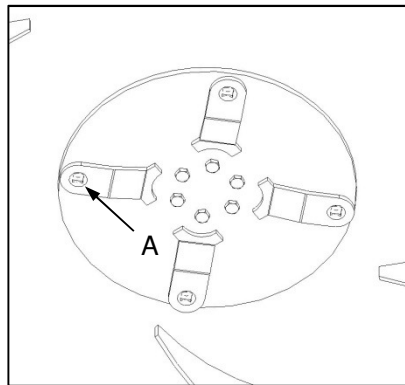

Fig. 6
- ✔ Check blade mounting holes (Fig. 6-A) for signs of wear, elongation or fractures. In the event of any observed defect do NOT attempt a repair, but provide immediate replacement of the defective disk.
- ✔ Gaan lemmonteringsgate (Fig. 6-A) na vir tekens van slytasie, rekking of breuke. In die geval van enige waargenome defek, moet NIE probeer om dit herstel nie, maar vervang die defekte skyf onmiddellik.